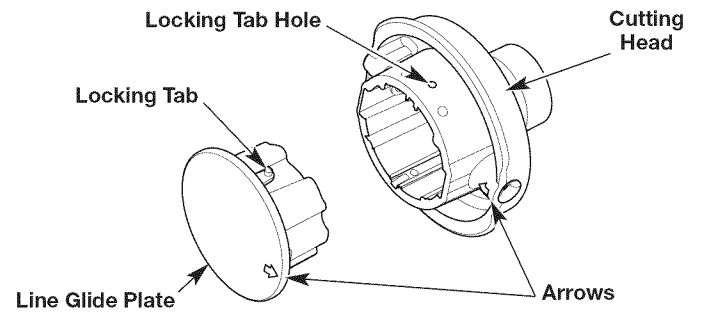

Fig. 17
2. Insert a small Phillips screwdriver into the locking tab hole and push the locking tab inward (Fig. 17). At the same time, pull the line glide plate out of the cutting head.
4. Align the arrow on the line glide plate with the arrow on the cutting head (Fig. 17).